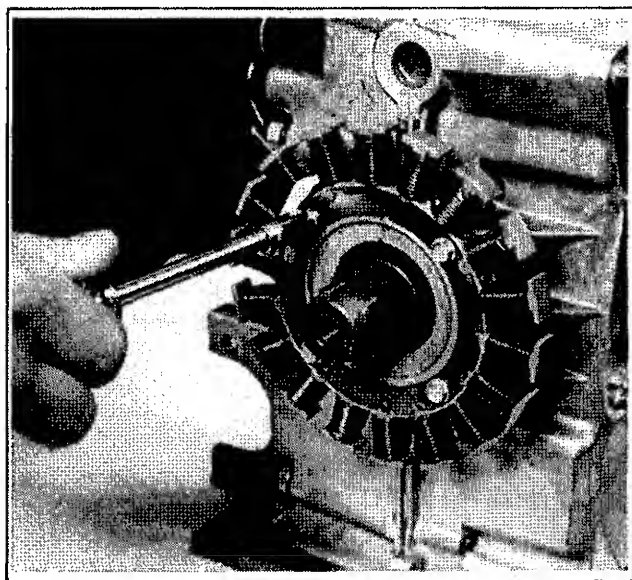

Figure 8-21. Installing Stator.
2. Secure the stator to the case using four #10-24 x 3/4" hex washer head screws. See Figure 8-21.